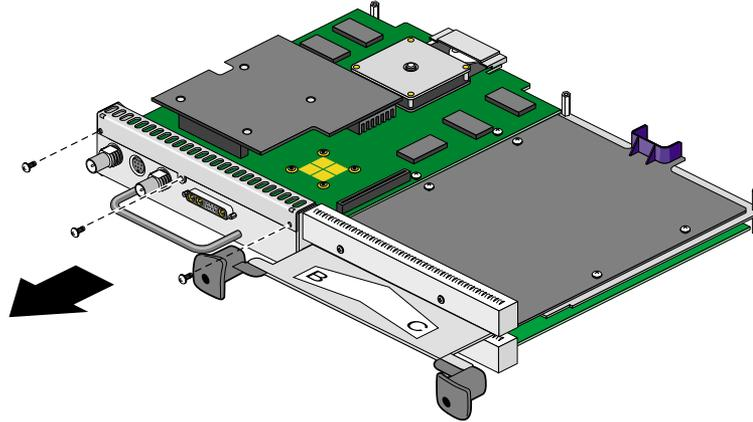

Figure 1-12 Removing the Screws from the VPro Graphics Board Blank Panel
3. Remove the three screws from the VPro Graphics Board blank panel, as shown in Figure 1-12. Save the screws for later in the installation.